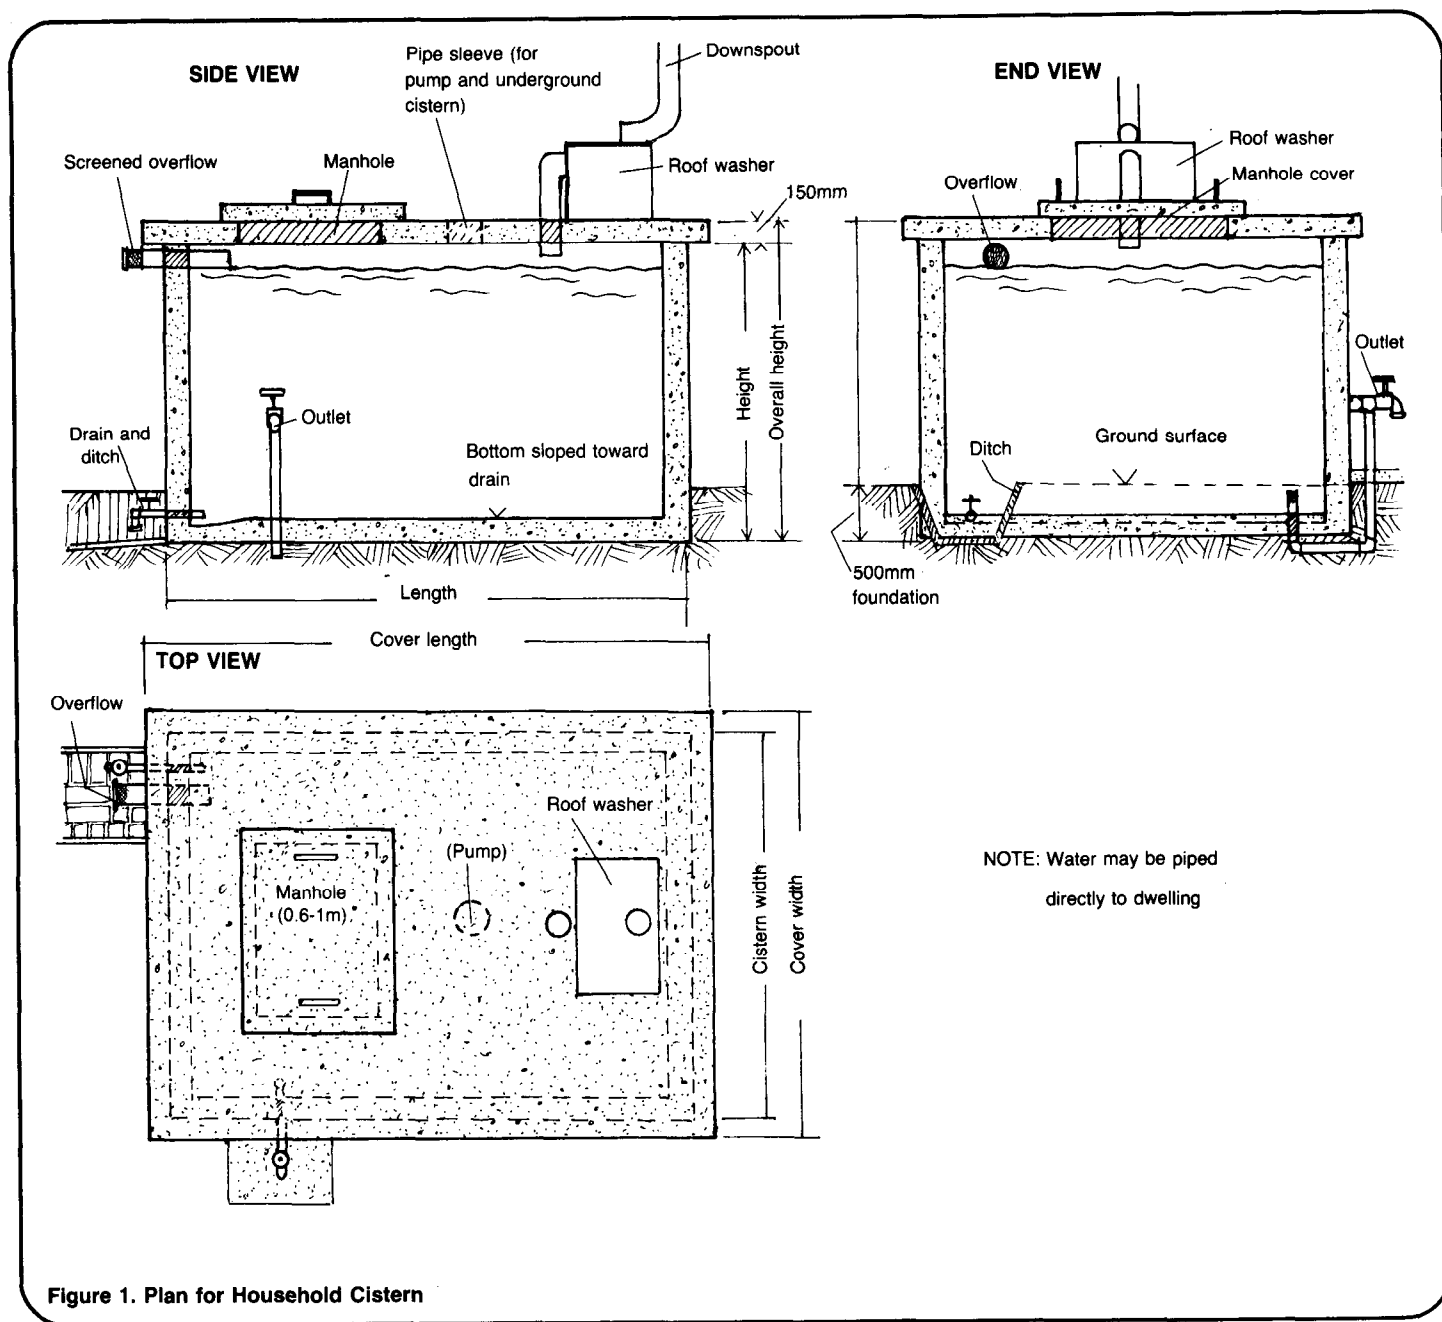

Figure 1. Plan for Household Cistern
1. A plan of the cistern showing the design and dimensions as shown in Figure 1.